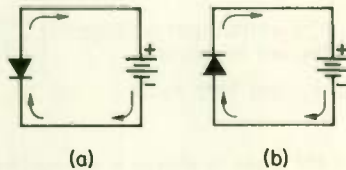

Fig. 11
1. Figure 11(a) shows a semiconductor diode connected to a battery. The current through the diode is (a) *(high) (very low)*. When the battery is connected like this, the diode resistance is (b) _____ . When the battery is connected as in Fig. 11(b), the diode current is (c) *(high) (very low)*. When the battery is connected like this, the diode resistance is (d) _____ .
2. The current that flows when the diode is connected as in Fig. 11(a) is called the (a) _____ current, and the current when the diode is connected as in Fig. 11(b) is the (b) _____ current. Vacuum-tube diodes and semiconductor diodes differ in that when you apply a negative voltage to the anode (plate) of a vacuum tube, (c) _____ current flows, while a (d) _____ current flows when a negative voltage is connected to the anode of a semiconductor diode.